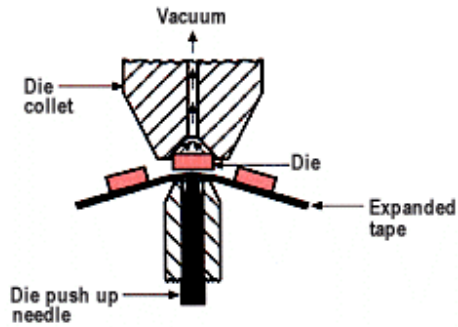

Figure 8
- f. Die attaching on a die bonder (figure 8).
In some applications heating the substrate or cleaning with solvent after the dicing is damaging to the product. Therefore, the wax process cannot be used. It also cannot be used for all applications requiring a die attach process (figure 8).